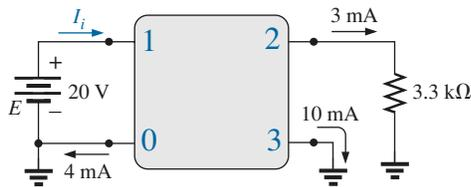

FIG. A4.125
- *42. Para el circuito integrado de la figura A4.125, determine $V_0, V_{03}, V_2, V_{23}, V_{12}, e I_f$.